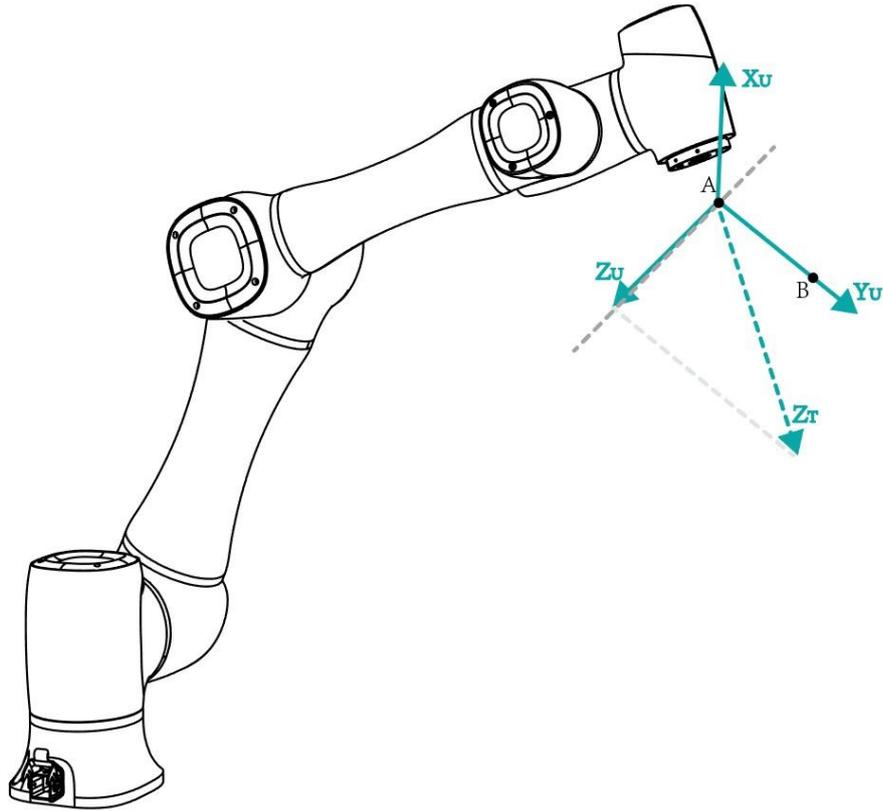

Figure 5.8 Line
- Line: Confirm a straight line by any two points **A** and **B**. The direction from A to B is defined as the positive direction of Y-axis, The Z-axis of Tool coordinate system of which point A is the origin is projected into the vertical plane that confirmed by points A and point B, we can define it as the positive direction of Z-axis. and then the positive direction X axis can be defined based on the right-hand rule. As shown Figure 5.8.